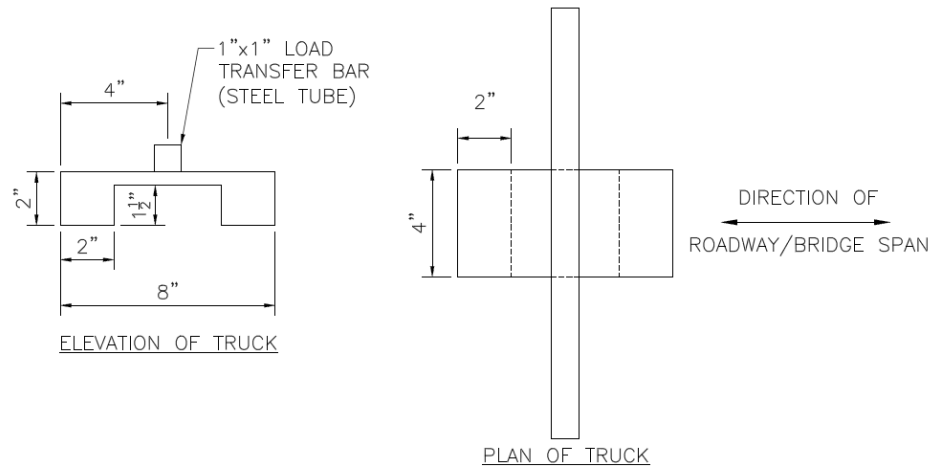

Figure 4: Details of Truck
5. If the roadway surface is not along the top of structure, the design must allow for a 1" x 1" load transfer bar (see Figure 4) to be passed through the bridge transversely with the bar's underside 2" above the loading surface, without causing interference with the structure during testing. The design must accommodate the truck being placed in any of the possible loading areas.